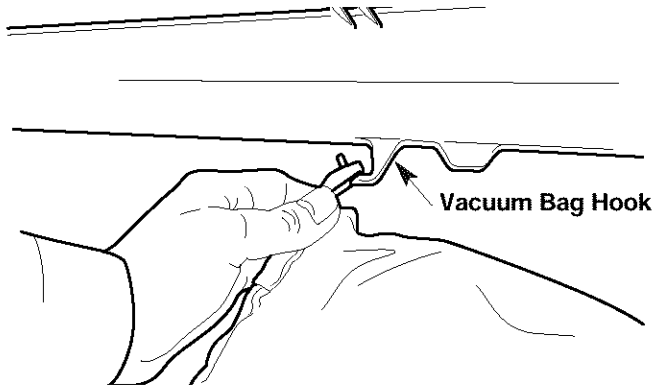

Fig. 3
1. Attach the vacuum bag to the vacuum bag hook on the blower/vacuum tube (Fig. 3).